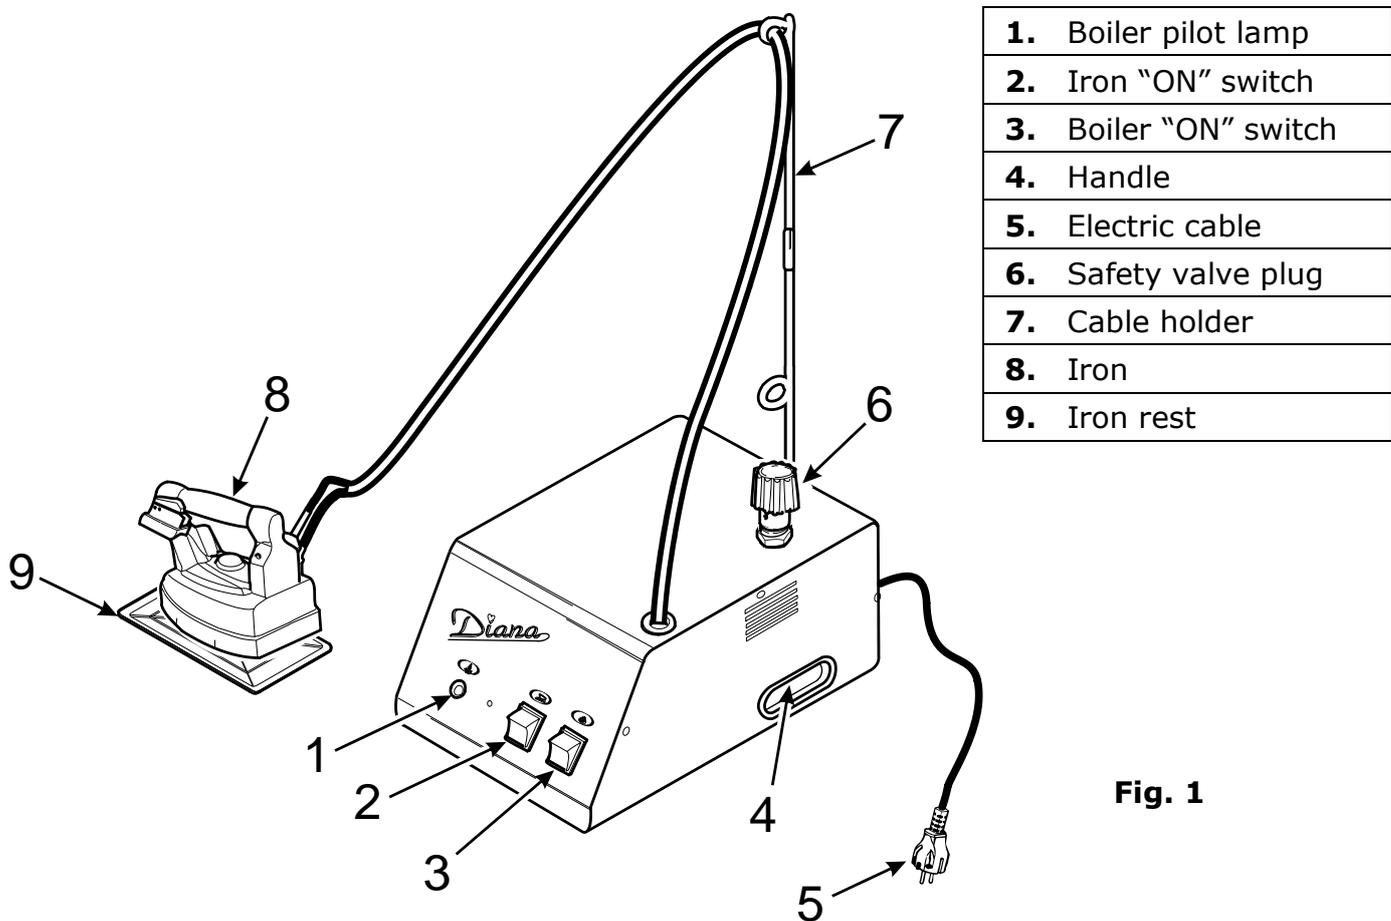

Fig. 1
For the transport and the movement of DIANA, take the generator only by the specific handles. Never pull the electric wires (fig. 1).
2. Remove DIANA from the box, assemble the cable support and insert it deep into the special support holder (fig. 1) placed on the back of the generator.
3. Fix the cable and the tube of the iron to the support hook, avoiding entwining (fig. 1).
4. Place the iron on the rubber iron rest supplied with the machine (fig. 1).
1. Unscrew the safety valve plug of DIANA (fig. 1), fill the boiler with water to the desired level paying attention not to overfill it. It is advisable to use a funnel. Take the plug by the plastic part and screw it again: do not tighten too much or its gasket might get spoilt (see section 7).
10. **Never replace the safety valve plug (fig. 1) with other types of plug. N.B. the safety valve plug is set at 4,5 bar and it has the function of a safety valve.**
3. During ironing operation, always put the iron on its rubber rest (fig. 1).
At this point disconnect the plug, rotate the valve plug (fig. 1) of 360° and wait for steam to go out completely. Unscrew the valve plug with care and wait 5/10 minutes.
Then fill the boiler up to the desired level (fig. 1) paying attention not to overfill it (see section 4 point 1). Screw the safety valve plug again, connect the plug and wait for the boiler lamp to switch off. Now the iron is ready again.
Unscrew the safety valve plug (fig. 1) and rotate the DIANA rightwards so that water and possible impurities come out.
4. the safety valve plug every 2500 hrs. or maximum every 3 years (fig. 1).